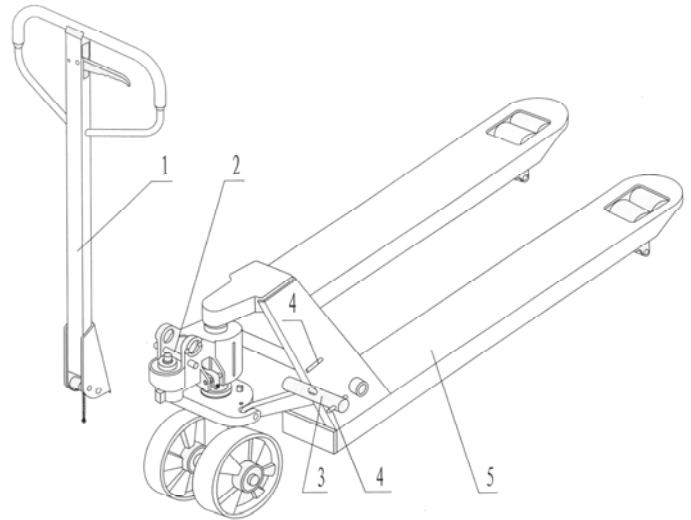
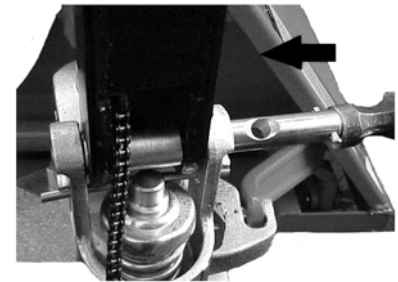

Fig. 5 Tiller assembling
Fig. 6: Axle assembling
- Insert the tiller arm(1, Fig.5) into the pump piston, then use a hammer to insert the axle with hole into the hydraulic pump and tiller arm from the right to the left (Fig. 6).
- Press the tiller arm down; take away the pin (2, Fig. 5).
- Set the control lever of the handle to 'RAISE' position, then raise the lever plate with the pin (2, Fig. 5) and insert the adjusting bolt into the front slot of lever plate.
- Use a hammer to insert the 2nd dowel pin (4, Fig. 5) into the 2nd hole of the axle.